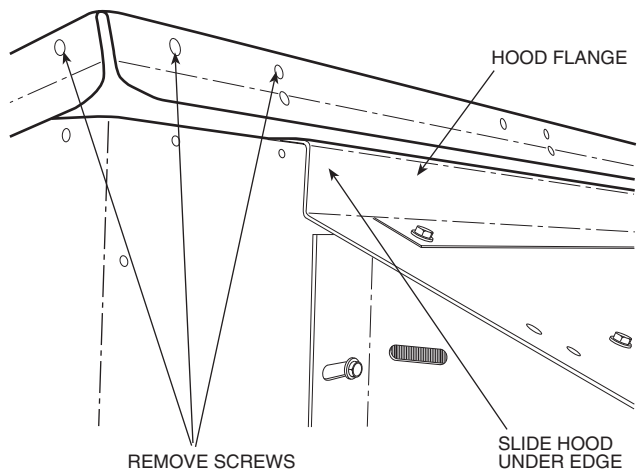

Fig. 3 — Condenser Top Cap
3. Remove all screws on the front and end of condenser top cap. (See Fig. 3.)
4. Slide top panel hood flange between unit top panel flange and unit. Reinstall screws in top cap (see Fig. 3).